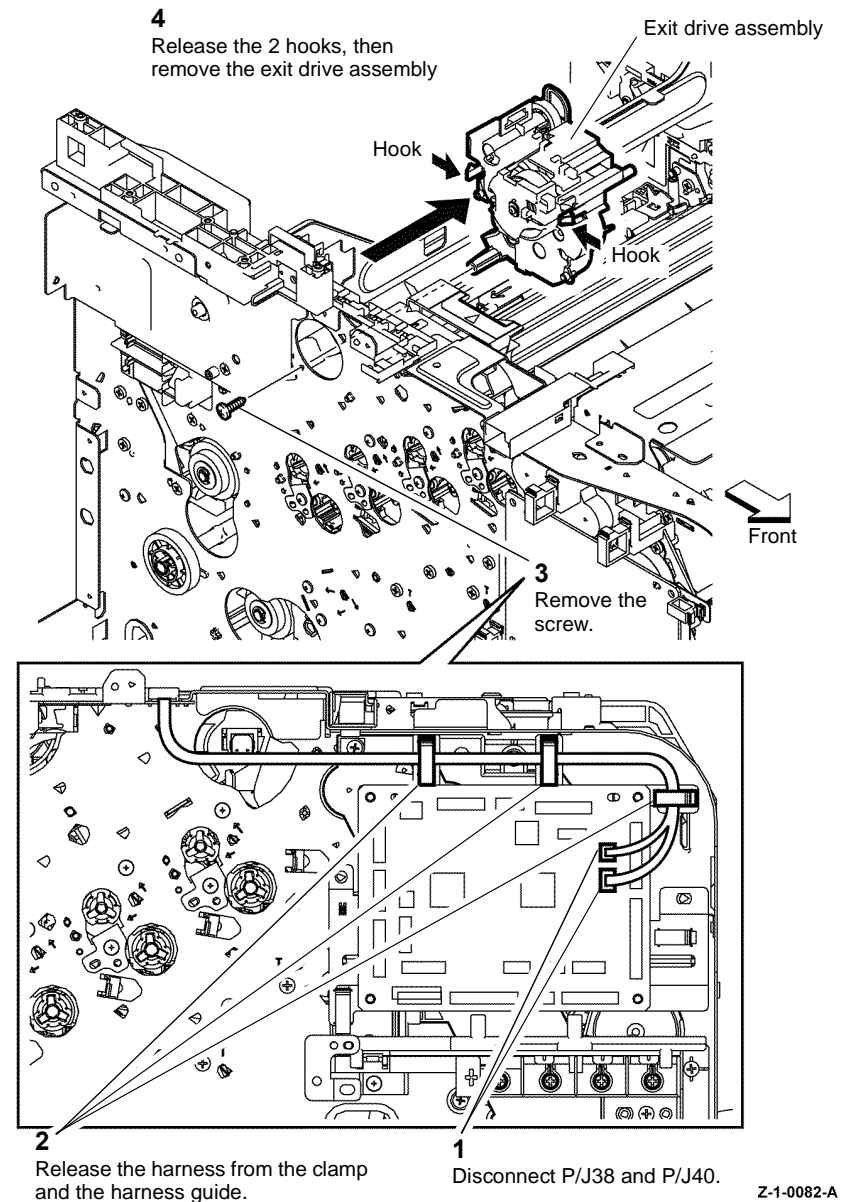

Figure 1 Exit drive assembly
3. Remove the exit drive assembly, Figure 1.